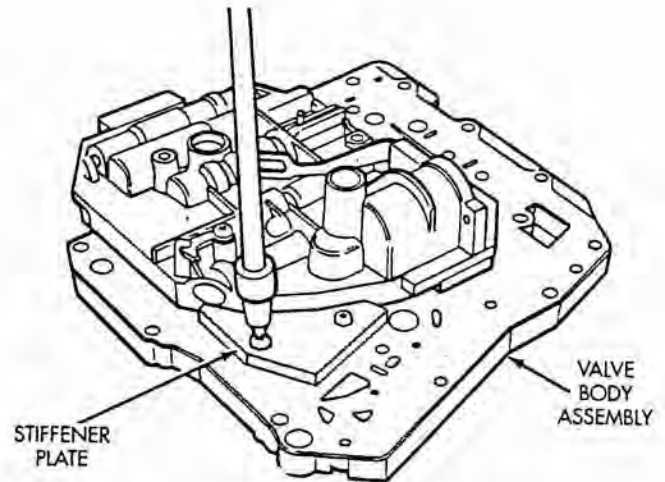

Fig. 11 Stiffener Plate Location
- (4) Remove valve body stiffener plate (Fig. 11).